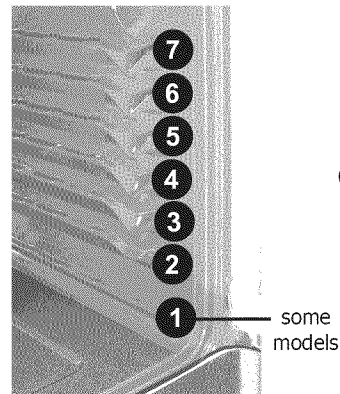

Fig. 1
Use the broil feature to cook meats that require direct exposure to radiant heat for optimum browning results. When broiling always remember to arrange the oven racks while oven is still cool. Position the oven rack as suggested in the broil settings table (See Figs. 1 & 3).
6. Place the broiler pan and insert (if equipped) on the oven rack (See Figs. 1 & 2).